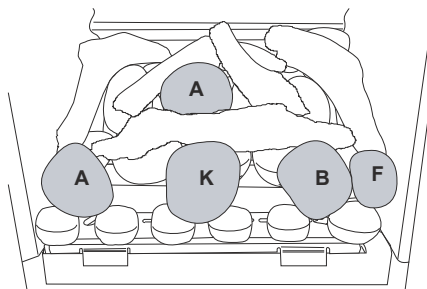
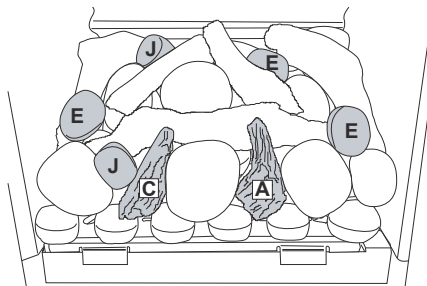

Figure 35
Figure 36
7. Continue laying the pebbles and the driftwood pieces as shown in **Figure 35** and **Figure 36**.